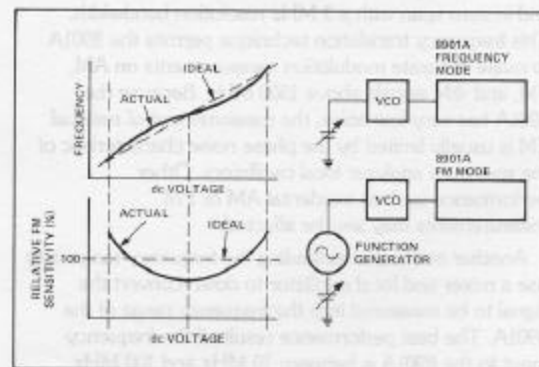

Figure 2-5. Voltage controlled oscillator characterization.
Voltage-controlled oscillator (VCO) linearity is often measured by measuring frequency as dc input voltage is varied. The 8901A can be used in frequency mode along with a variable dc source to measure VCO linearity (Figure 2-5). Another common VCO measurement is differential nonlinearity. Differential nonlinearity is a plot of VCO modulation sensitivity ($\Delta f/\Delta V$) as a function of control input voltage (V). This plot is the derivative of the VCO's linearity transfer characteristic. Since changes in the slope of the VCO transfer characteristic are readily apparent in a modulation sensitivity curve, the plot gives useful information concerning VCO linearity. Ideally, VCO modulation sensitivity is constant, resulting in a horizontal line when plotted over the frequency range of the VCO.
frequency while still measuring FM. The benefit is that the 8901A provides excellent modulation sensitivity over a wide range of input frequency. Previously FM discriminators were used in place of the 8901A. The VCO signal was then heterodyned to the operating frequency of the discriminator. Because of the narrow operating range of most discriminators, this technique required frequent readjustment. The 8901A measures modulation sensitivity as shown in Figure 2-5 as follows: